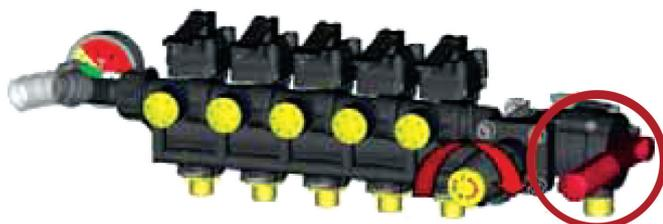

Figure 65
4. Make sure that the by-pass of regulator is in the regulator input lever position. (Figure 65) (For optional FPR Control)